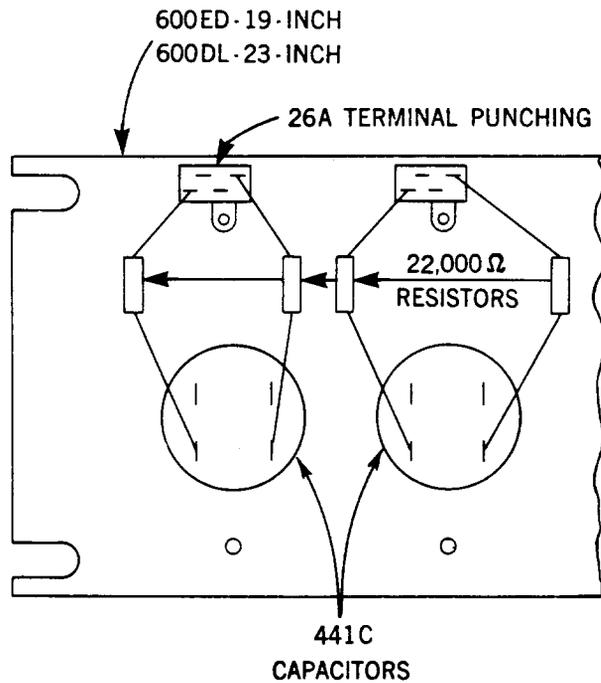
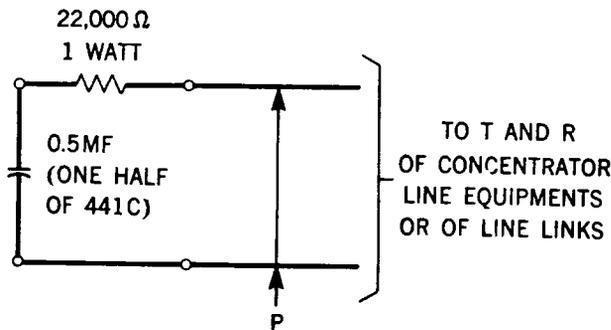

Fig. 3
Fig. 4
2.13 441C capacitors, 26A terminal punchings and radio-type 22,000-ohm, 1-watt resistors may be assembled on a mounting plate as shown in Fig. 3 and wired as shown in Fig. 4. The applique circuits may be cabled (or wired with paired cross-connection wire through a locally provided ring run) to the line equipment terminal strip on the concentrator or on the distributing frame, to a separate block on the distributing frame and then cross-connected as required, or to the line links.